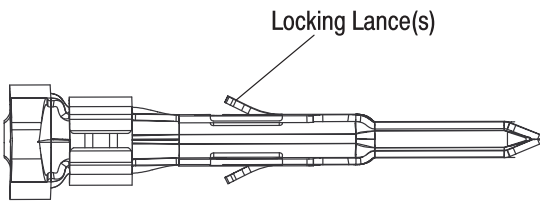

Figure 2
6. After extraction, check the contact, locking lance, and housing for damage. See Figure 2.